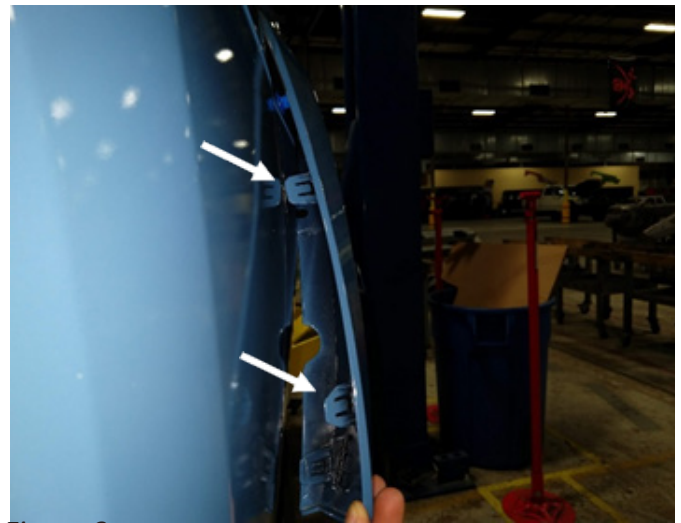

Figure 8
8. Using a plastic body panel pry tool, reach inside the bumper cover and pinch the two (2) clips holding the flare to the bumper cover and pull out on the flare. With the flares pulled out of the cover remove the bumper cover from the vehicle. (Figure 8)